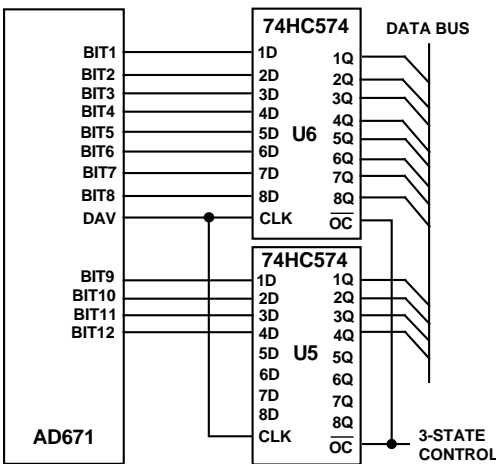
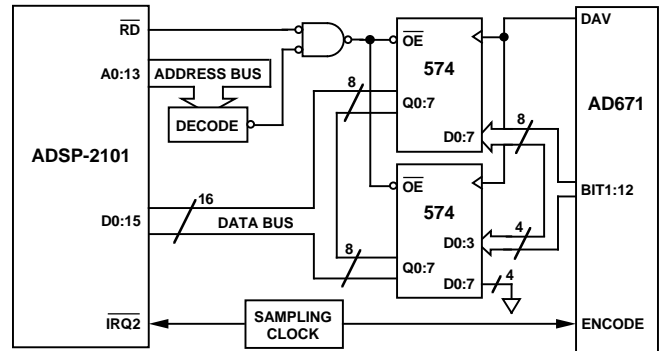

Figure 10. AD671 to Output Latches
Figure 20. AD671 to ADSP-2101/ADSP-2102 Interface
Figure 10 shows the AD671 connected to the 74HC574 Octal D-type edge triggered latches with 3-state outputs. The latch can drive highly capacitive loads (i.e., bus lines, I/O ports) while maintaining the data signal integrity. The maximum set-up and hold times of the 574 type latch must be less than 20 ns ( $t_{DD}$  and  $t_{SS}$  minimum). To satisfy the requirements of the 574 type latch the recommended logic families are HC, S, AS, ALS, F or BCT. New data from the AD671 is latched on the rising edge of the DAV (Pin 24) output pulse. Previous data can be latched by inverting the DAV output with a 7404 type inverter. See Figures 20, 21 and 22 for PCB layout recommendations.
Figure 20 is identical to the 2100A interface except the sampling clock is used to generate an interrupt (IRQ2) for the processor. Upon interrupt the ADSP-2101A starts a data memory read by providing an address on the Address (A) bus. The decode address generates OE for the D-latches and the processor reads their output over the Data (D) bus. Reading the conversion result is thus completed within a single processor cycle.